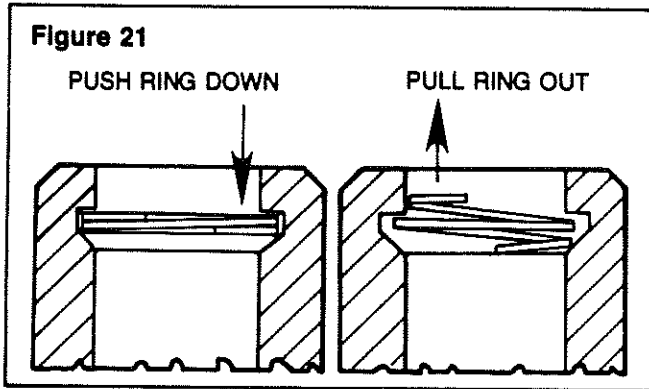

Figure 21
3. Use a small screwdriver and pliers to remove the piston retaining ring. **Figure 21.**